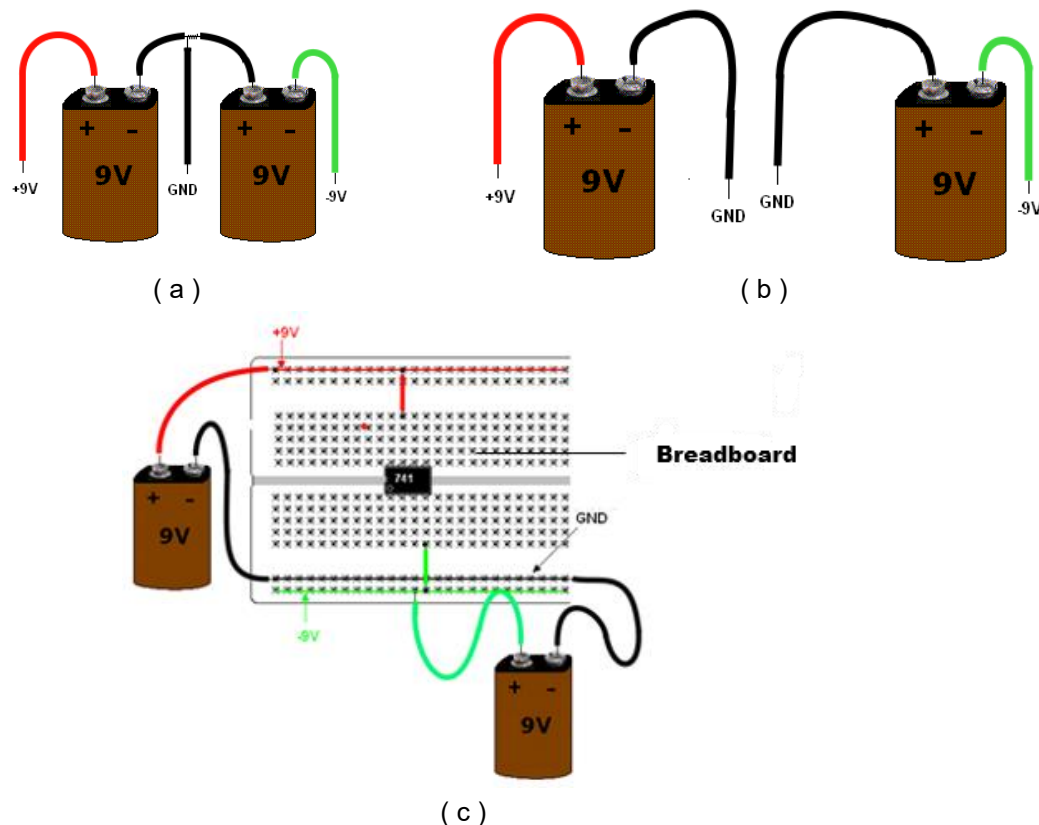

Figure 4 – (a) and (b) Symmetrical 9 V source (c) Op Amp being powered by the symmetrical 9 V source
Figure 4 shows how to simply and cheaply obtain a symmetrical 9 V source from two 9 V batteries.
- 1) In most cases, the Op Amp is powered by a symmetrical source, and there are several ways to build a symmetrical source. In this course, two 9 V batteries will be used (It's cheaper). Figure 4 shows the two 9 V batteries that will be used to power the Op Amp. In the case of Figure 4a, the negative terminal of one is connected to the positive terminal of the other battery. The common point is ground (GND or 0 V) but note that the two batteries can be separate and you will have to connect the two grounds in the breadboard, as shown in Figure 4c.